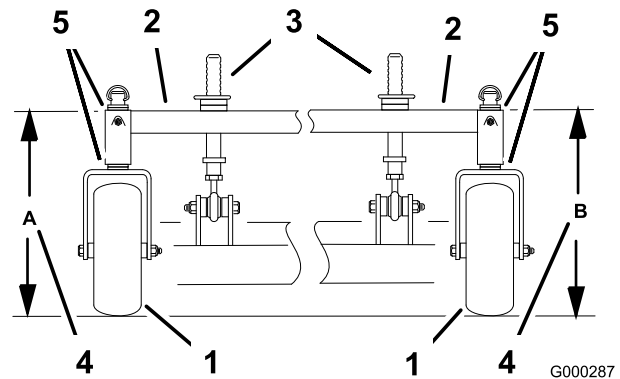

Figure 59
4. Measure carrier frame height at location **A** (Figure 59).
5. Measure carrier frame height at location **B** (Figure 59).